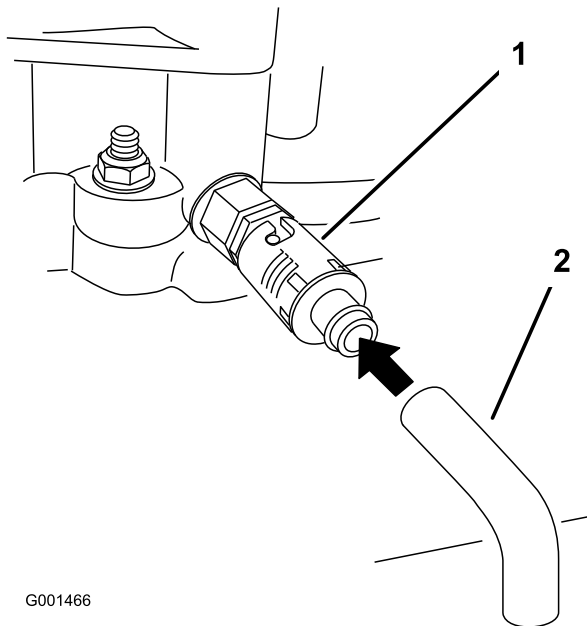

Figure 32
5. Place a pan below the drain hose. Rotate oil drain valve to allow oil to drain (Figure 32).
7. Remove the drain hose (Figure 32).